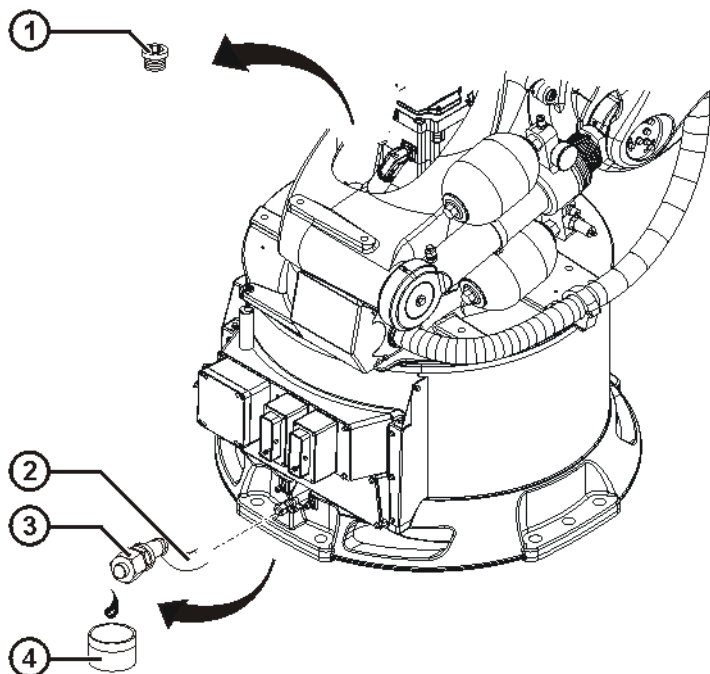

Fig. 9-20: Draining oil on A1
1. Pull the oil drain hose out of the base frame (>>> Fig. 9-20 ).